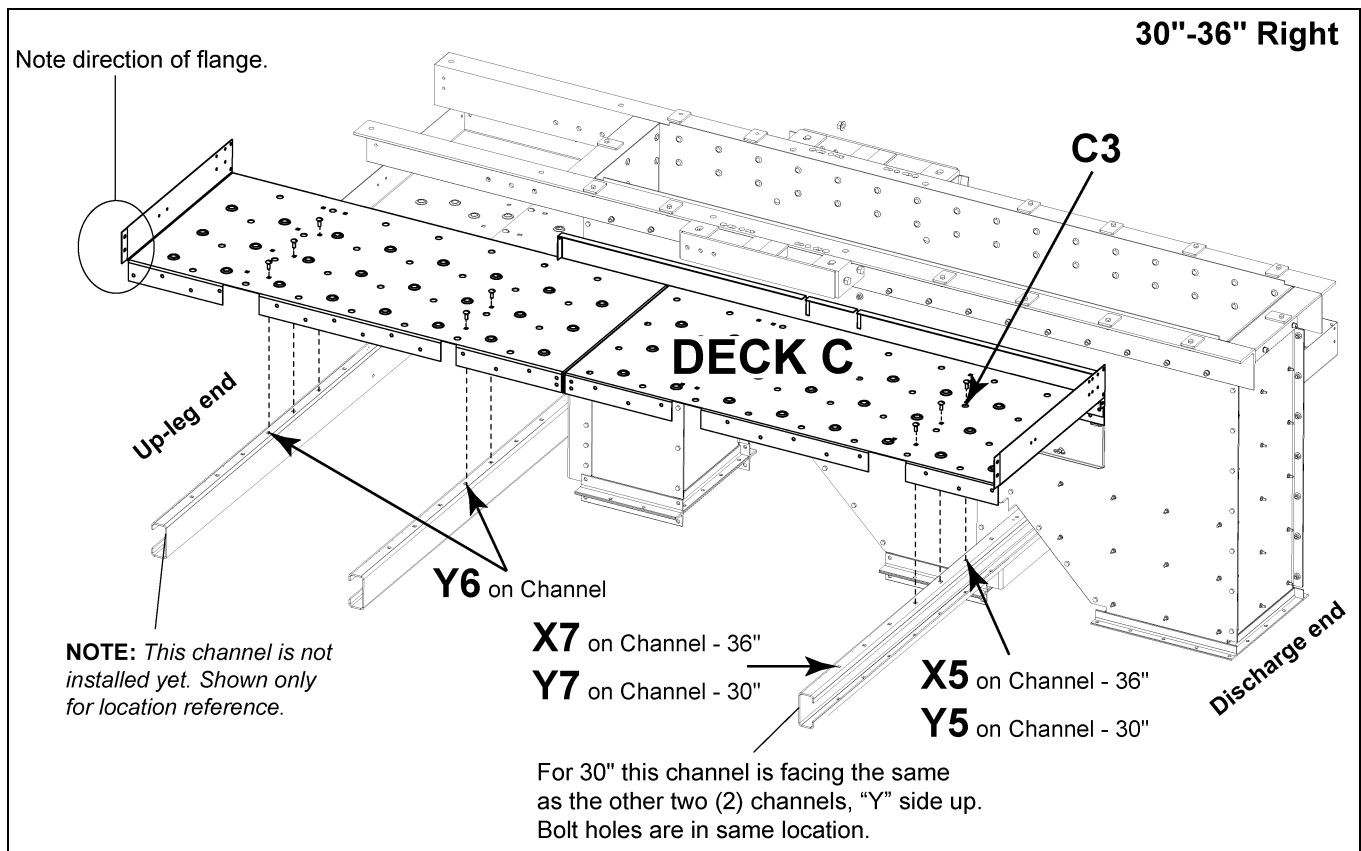
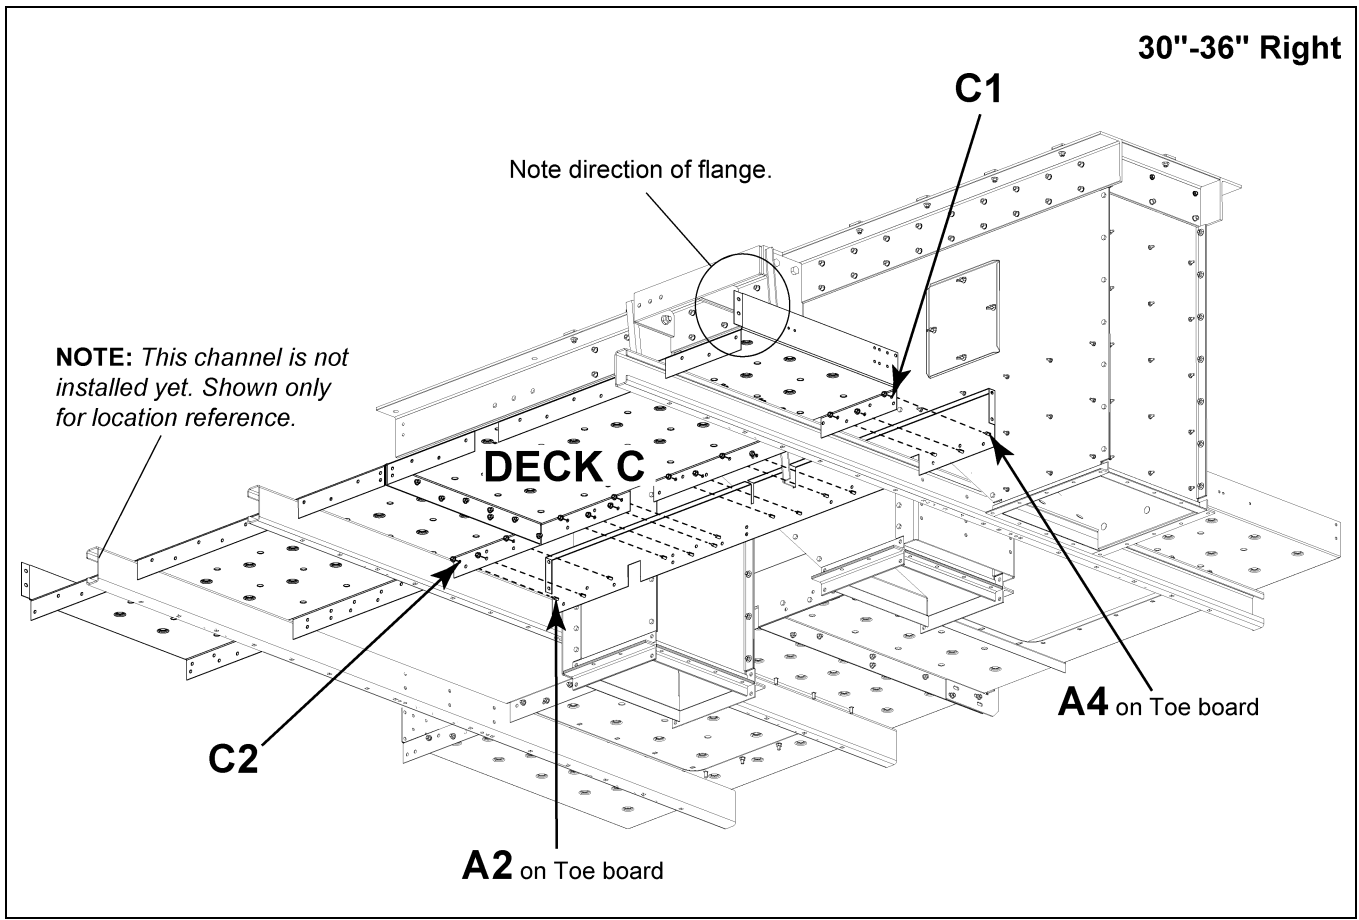

Figure 8J Deck C to Cross Deck Support Channels
Figure 8K Underside View of Deck C to Toe Board
1. Locate the pre-assembled Deck C. This deck consists of two (2) planks.
3. Make sure the extended kick plate flange of Deck C is away from the lower head assembly. (See Figure 8J below and Figure 8K on Page 59.)
5. Connect cross deck support channel and Deck C using 3/8" x 1" carriage bolts (S-3585) with flange nuts (S-10028). Connect all holes between channel and deck. (See Figure 8J.)